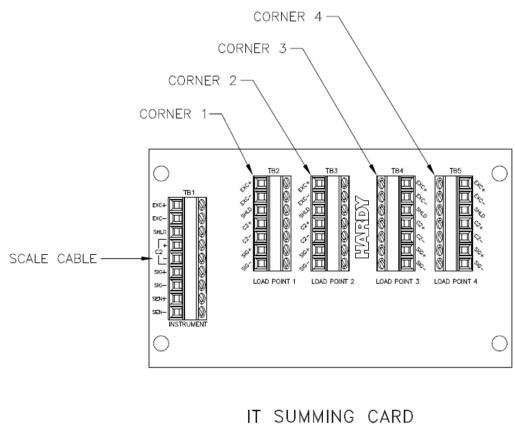

FIG. 18 SUMMING CARD
Step 2. To gain access to the Summing Card follow the instructions above (Steps 3-4 on pages 17 and 18). You do not have to remove the summing card or the bottom of the Junction box to install a new load sensor. (See Fig. 18)